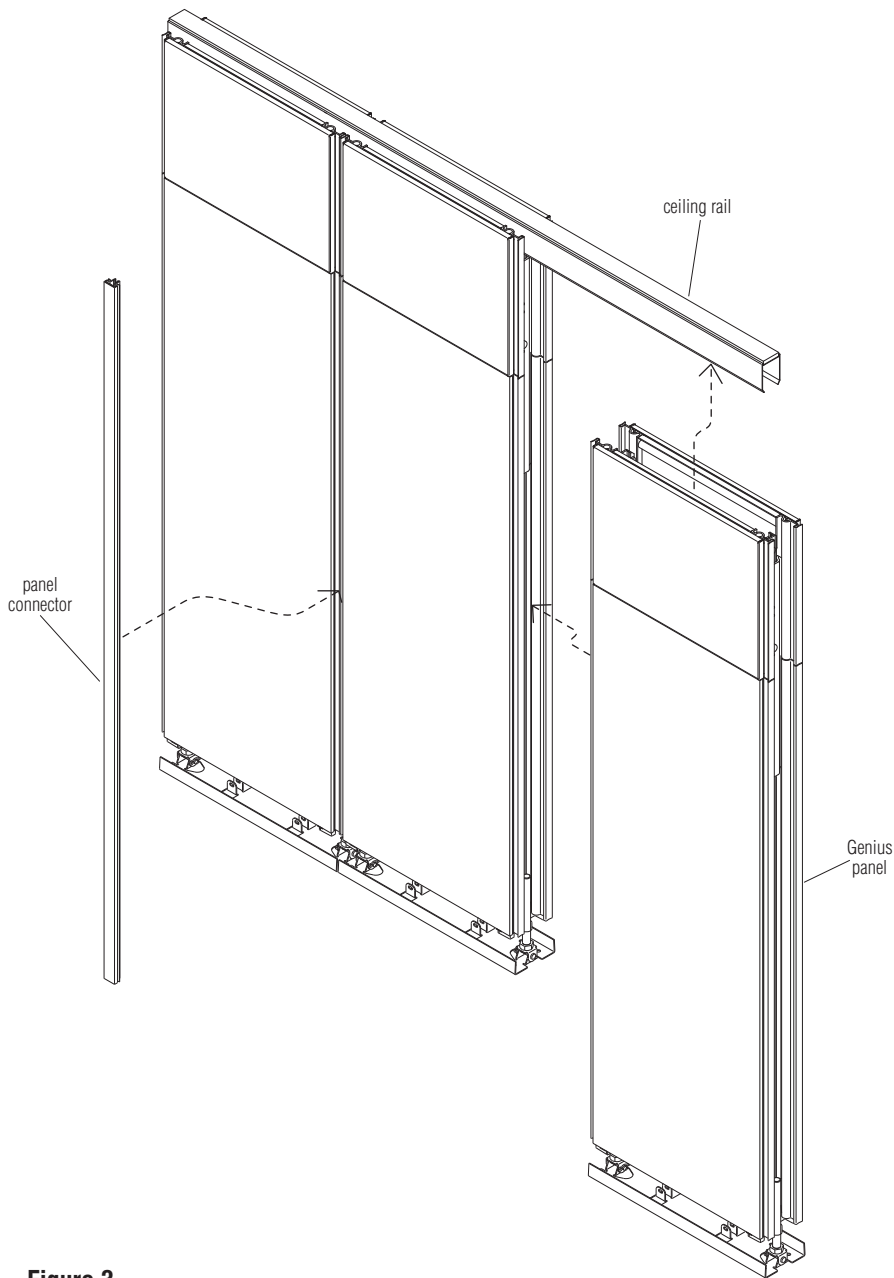

Figure 3
6. After assembled units are leveled and at their final installation location, secure them together using a panel connector (Figure 3). See page 13, "Panel Connector" instructions, steps 1 through 3 for more detail.